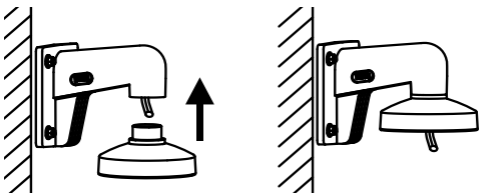

Figure 2-11 Fix the Pendent Cap
3. Fix the pendent cap onto the bracket, as shown in Figure 2-11.